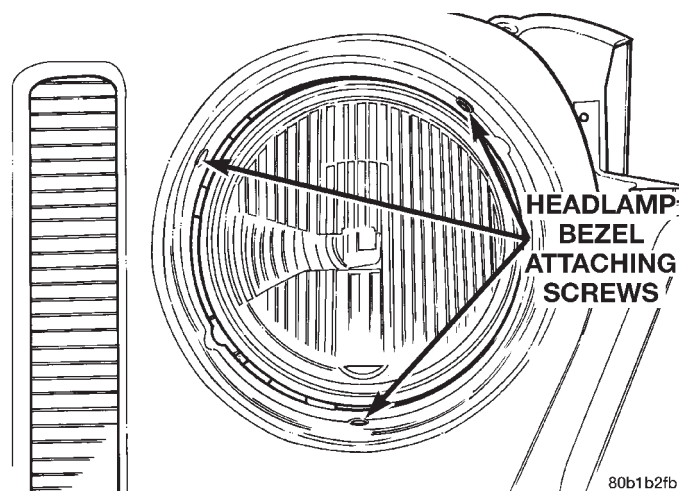

Fig. 1 Headlamp Bezel
- (1) Remove the headlamp bezel attaching screws (Fig. 1).